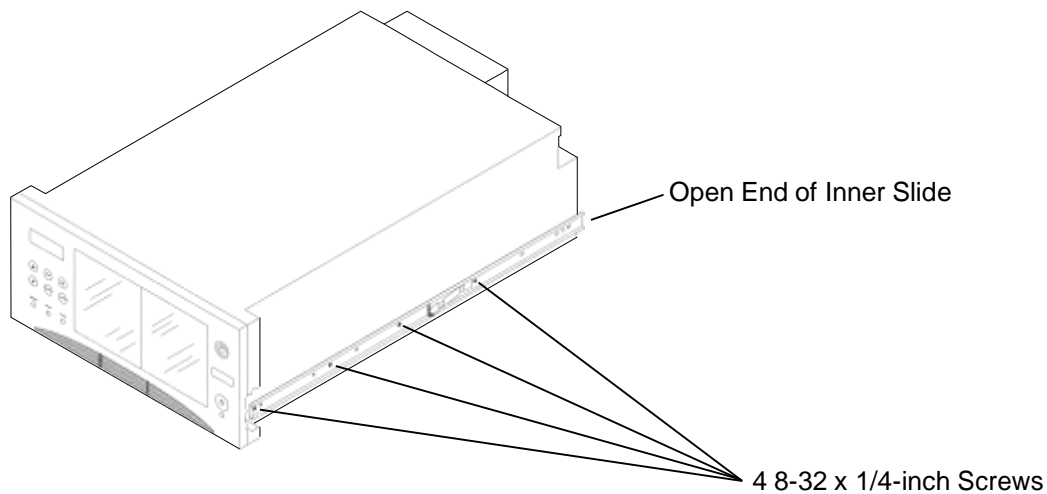

Figure 5-8 Inner Slide Mounted on the Side of the Library
1. Use four or five (model dependent) of the supplied 8-32 x 1/4-inch Phillips head screws to mount an inner slide on the library as shown in Figure 5-8. Make sure that the open end of the inner slide is towards the rear of the library.